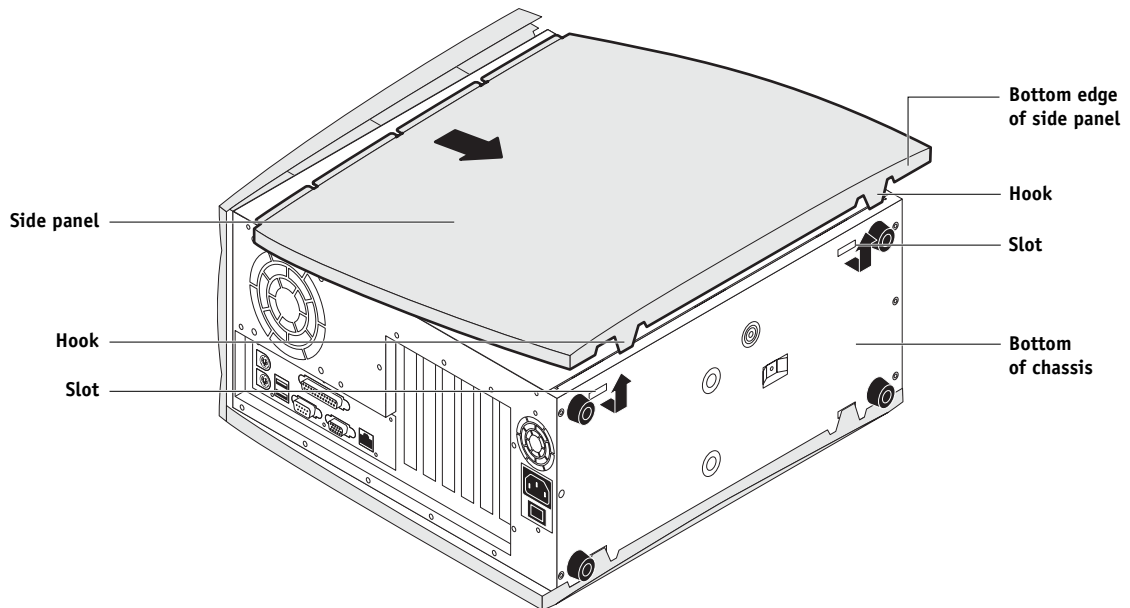

FIGURE 4-2 Removing the side panel
3. Position the Pi8500Pro so that it is resting on its side on a flat, anti-static surface (see Figure 4-2).